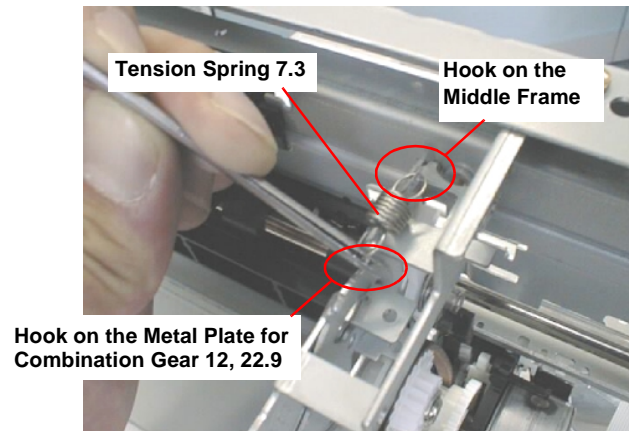

Figure 4-28. Setting the Tension Spring 7.37
- After setting the Tension Belt to the Gear 22.92 of the Combination Gear 12, 22.92, hang the Tension Spring 7.3 in the following order. Refer to Figure 4-28.